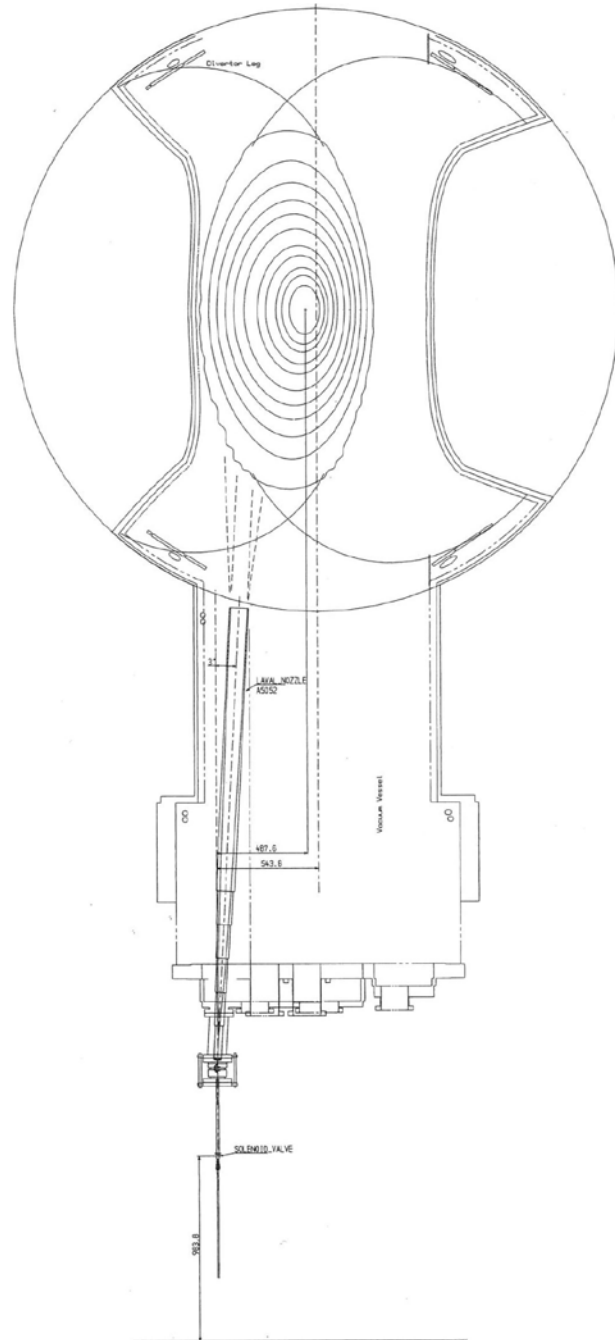

Fig. 4. A schematic view of the large Laval nozzle for SSGP installed inside the 3.5L port.
- For supersonic gas puff (SSGP [2]), a large Laval nozzle is installed inside the 3.5L port (Fig. 4).